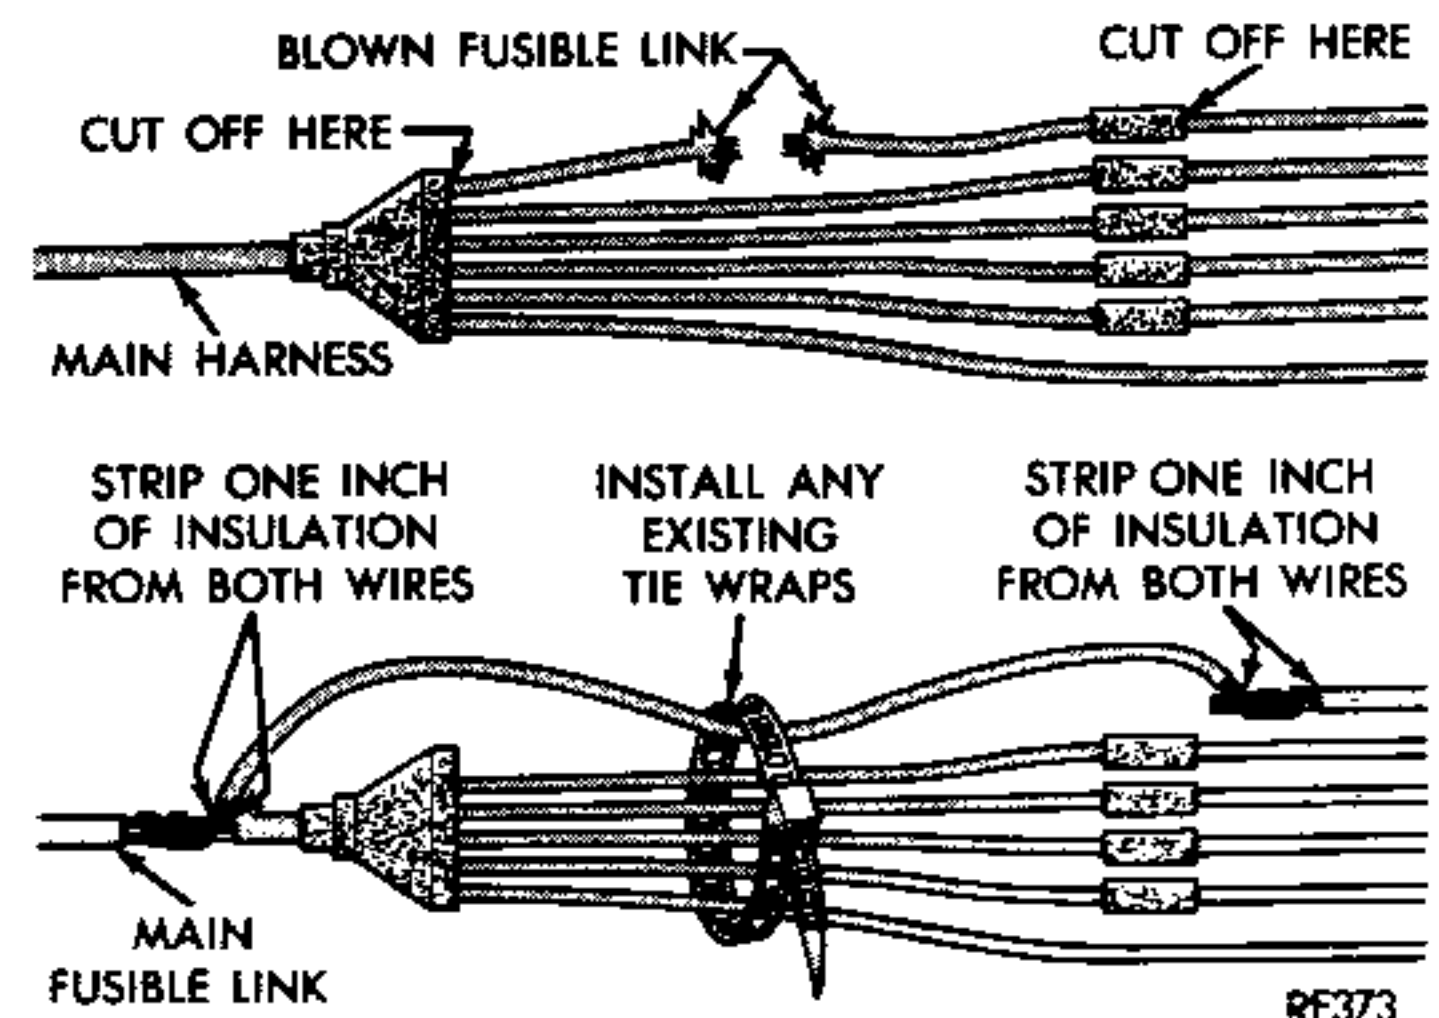

Fig. 7—Fusible Link Repair
- (1) Disconnect negative battery cable.
- (2) Cut off any remaining portion of blown fusible link flush with multiple connection insulator, taking care not to cut into other fusible links (Fig. 7).
- (3) Remove 1 inch of insulation from main harness wire about 1 inch from multiple connection insulator (Fig. 7).
(4) Remove 1 inch of insulation from one end of new fusible link and wrap it around main harness wire that was stripped (Fig. 7).
(5) Heat splice with a high temperature soldering gun, apply rosin type solder until it flows freely, and remove soldering gun. **Do not use acid core solder.**
(6) Allow to cool and wrap new splice with a minimum of 3 layers of suitable electrical tape.
(1) Disconnect negative battery cable.
(2) Cut fusible link including connection insulator from main harness wire (Fig. 7).
(3) Remove 1 inch of insulation from both new fusible link and main harness wire and wrap together (Fig. 7).
(4) Heat splice with a high temperature soldering gun, apply rosin type solder until it flows freely and remove soldering gun. **Do not use acid core solder.**